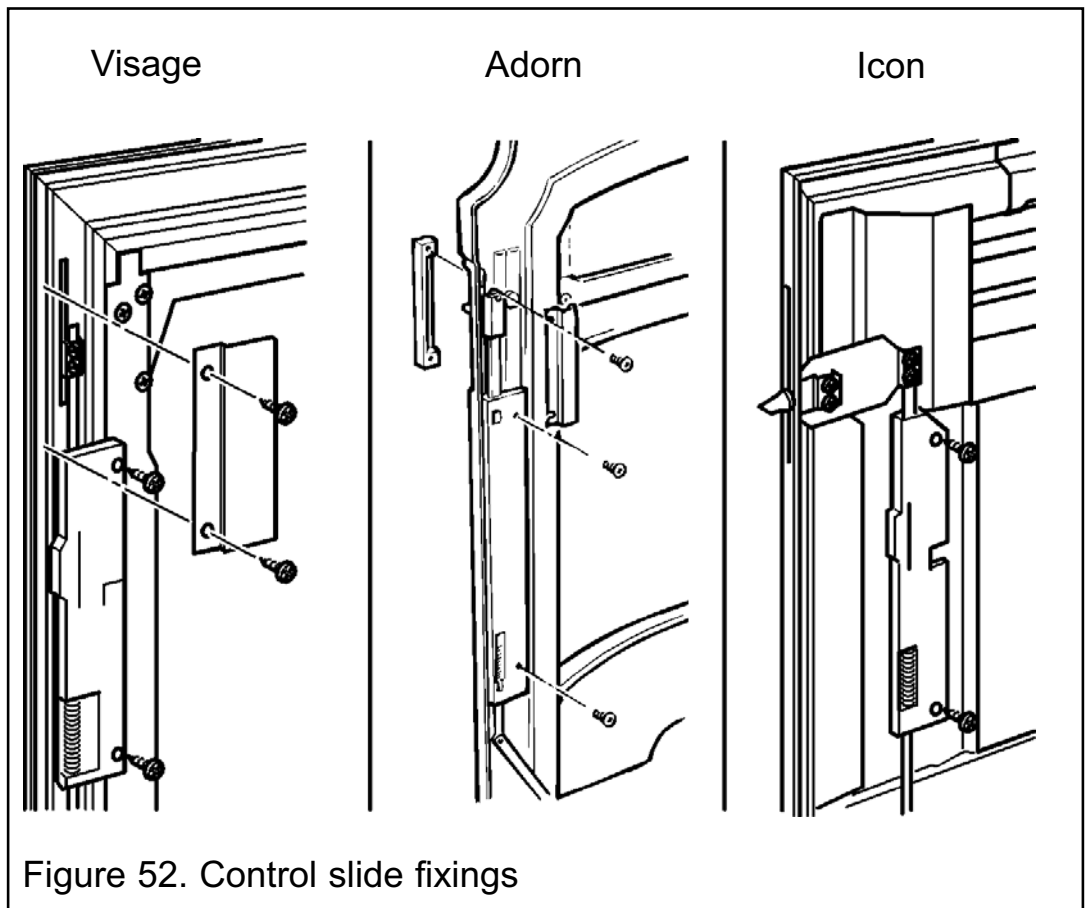

Figure 52. Control slide fixings
3. Detach the slide unit by removing two screws securing the plastic slide mechanism to the rear of the fascia (See figure 52).
2. Detach the rear bezel baffle and bezel by removing the two screws on the bezel baffle (See figure 52).
2. Detach the slide unit by removing two screws securing the plastic slide mechanism to the rear of the fascia (See figure 52).